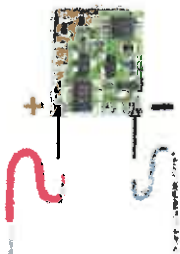

Fig1
1. The wires should be soldered to the pins provided. The S shape of the wires (fig1) reduces the mechanical load on the heater plate (fig3).